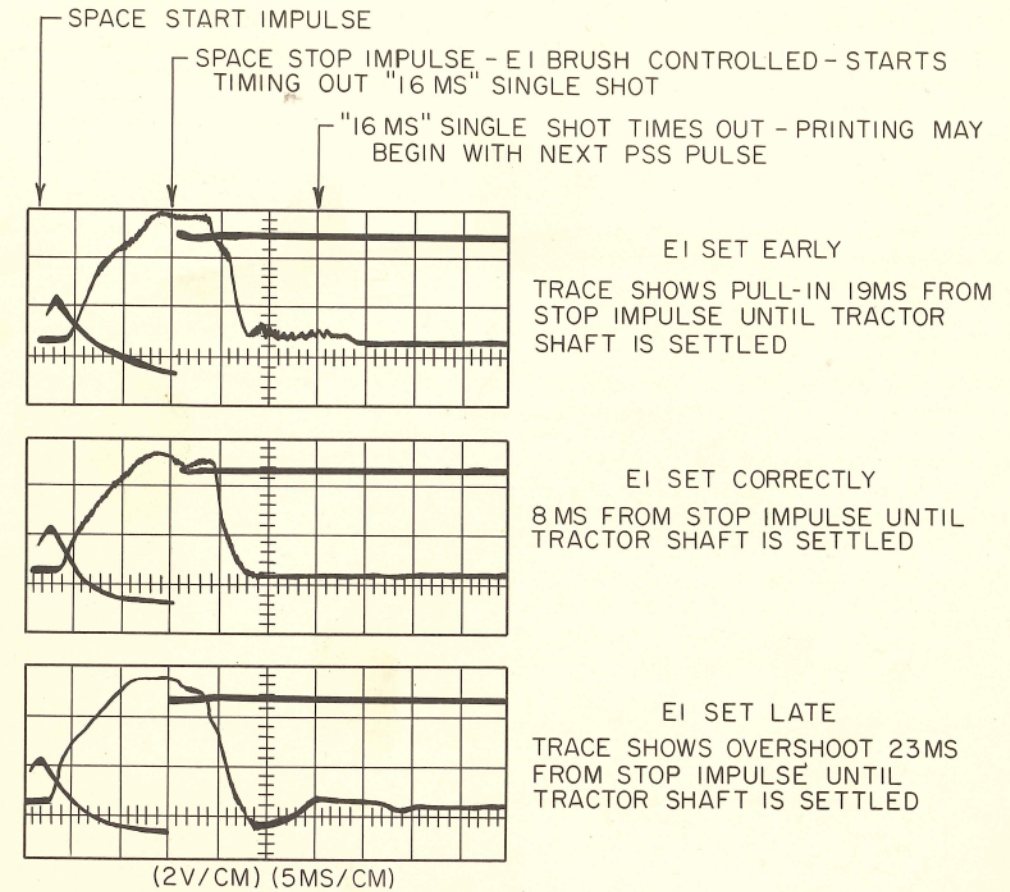

FIG. 14 EI BRUSH ADJUSTMENTS FOR TRIPLE SPACE 6 LINES PER INCH
4. Shift emitter adjustment arm to obtain least time to settle tractor shaft movement shown in Fig. 14